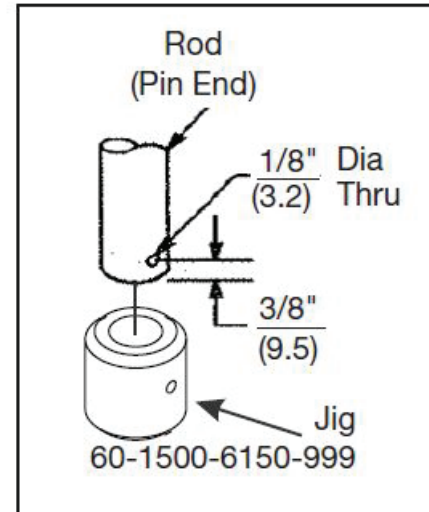

Figure 23
To Lengthen Rods (Figure 23)
5. on both sides. Insert rod into device assembly. See Figure 23.